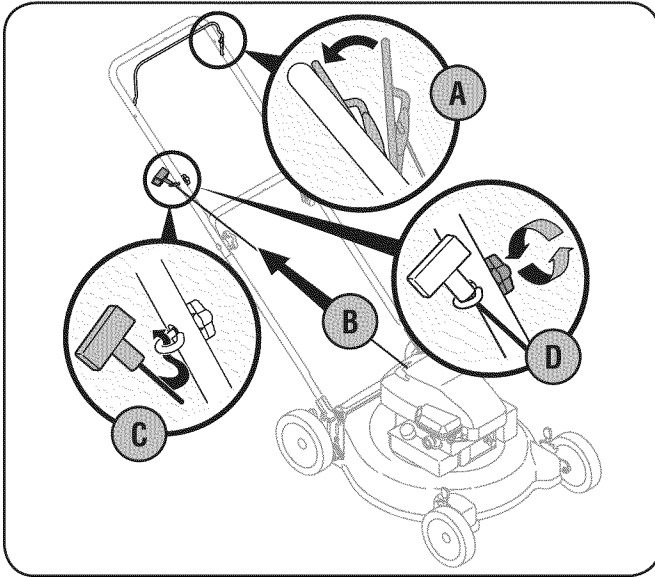

Figure 3-3
3. The rope guide is attached to the right side of the upper handle. Loosen the wing nut which secures the rope guide. See Fig. 3-3.